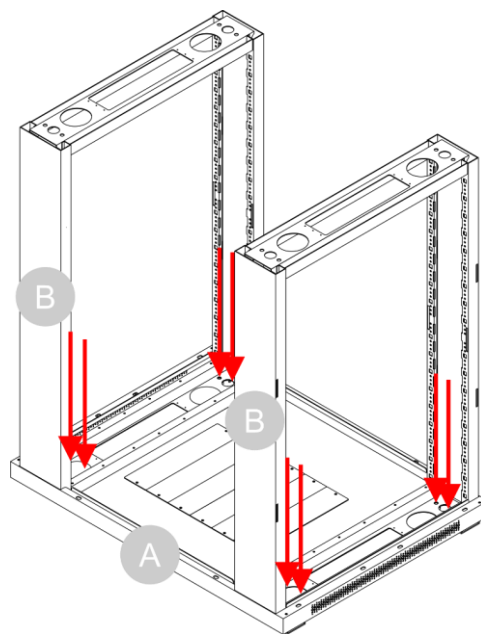

Fig. 20
- 03) Use a socket wrench and a **hex key (S)** to attach the 2 **frames (B)** to the **bottom plate (A)** with 8 **nuts (L)** and 8 **screws (N)**, as shown in Fig. 20.